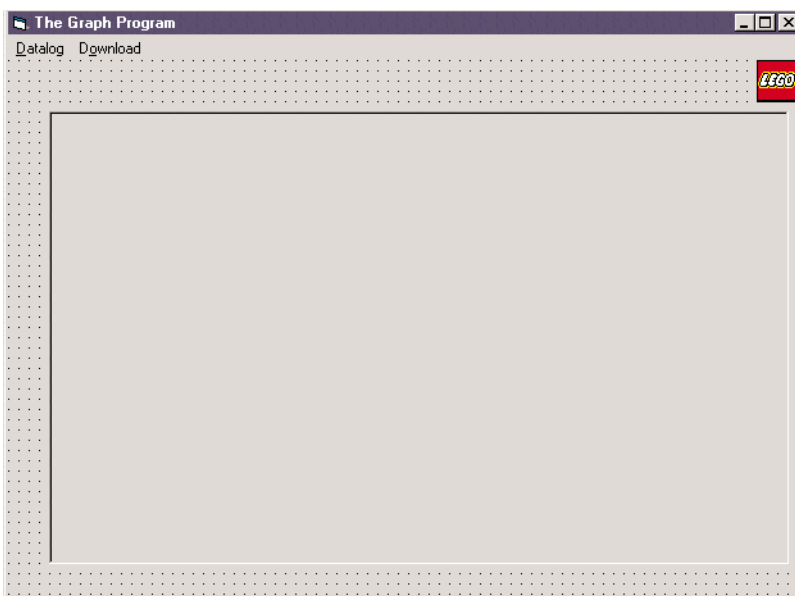

Figure 8.7
- Your frmGraph should now look like figure 8.7.